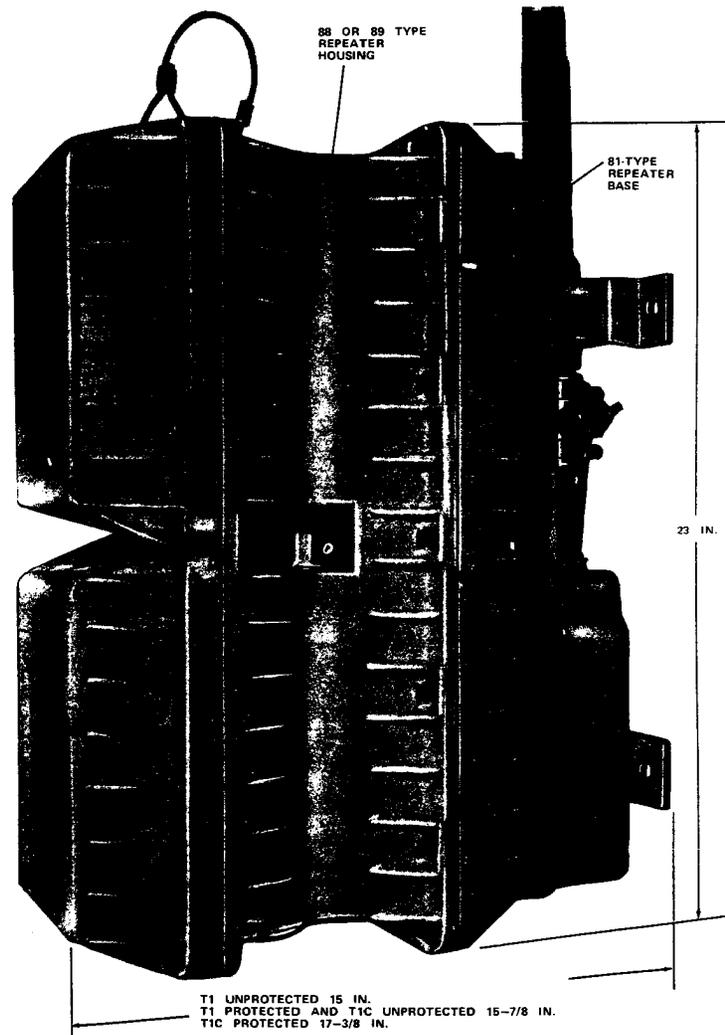

Fig. 1—818- or 819-Type Repeater Cases
2.01 The 818- or 819-type repeater cases (Fig. 1) are composed of two basic subassemblies—a repeater base and a repeater housing.